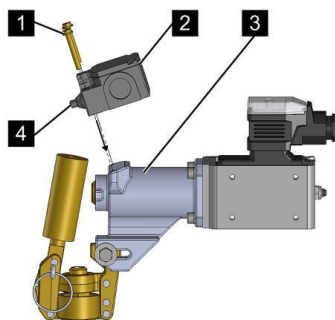

Fig. 12: Mounting the Monitoring V release device EM
1. Loosely fasten the limit switch (Fig. 12/2) with cylinder screws and washers (Fig. 12/1) on the holder of the EM release device (Fig. 12/3).
2. Align the limit switch (Fig. 12/2) in such a manner that the contact (Fig. 12/4) is activated with the valve lever.